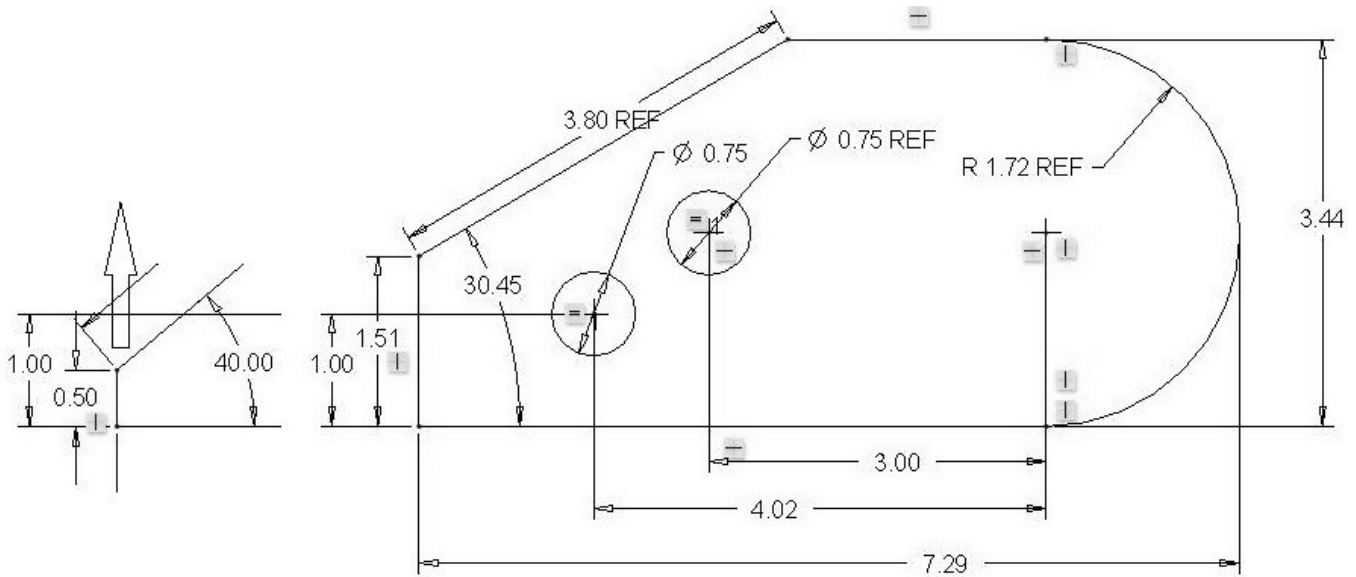

Figure 3-25 Design Intent, 0.50 Changed to 1.51 and diameter changed to 3.44
Step 10: Move the cursor onto the point where the left vertical line meets the slanted line, then *press* the LMB. The point will turn red. *Press down* the LMB, then move the cursor upward. The point will follow the cursor. Move the point to the left and right. Pick the point where the top of the arc meets the horizontal line. Move it upward as well. As you move the point observe the dimensions on the figure. Note that the left small hole and its size do not change since it references the horizontal distance to the center of the big radius and the vertical distance from the bottom of the figure. See Figure 3-25. What dimensions change or do not change, and why?